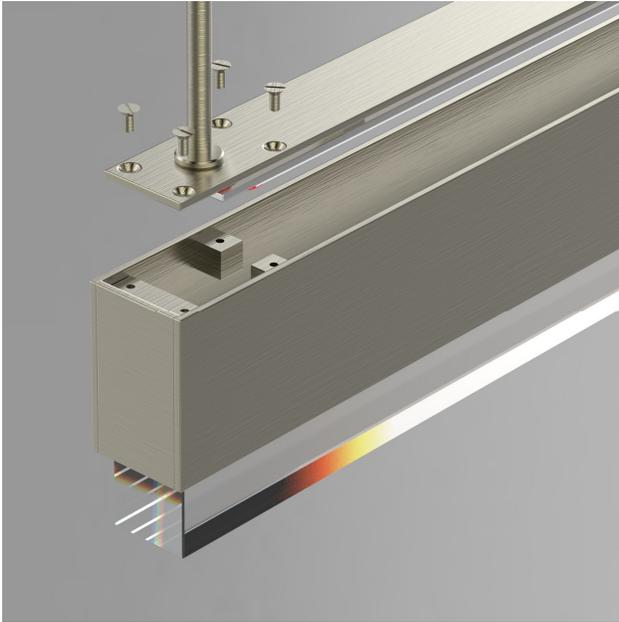

Figure 12
- With assistance from a second person, attach housing assembly to housing cover. (Figure 12)